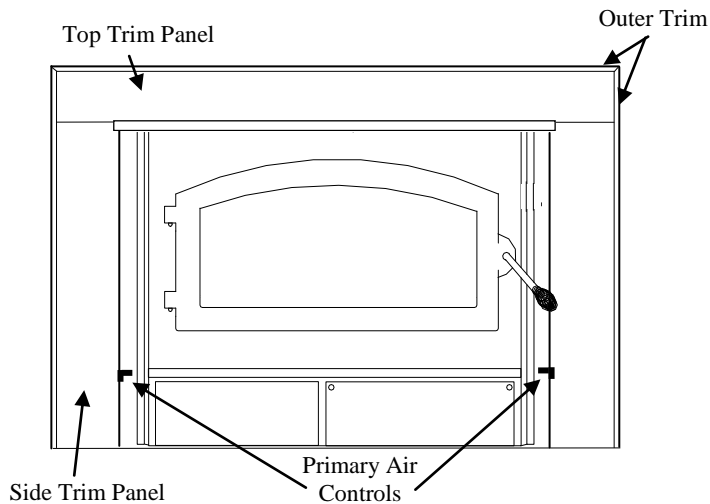

FIGURE 4
9. Obtain brass trim kit provided with insert kit and slip over top and sides of trim panels. Top ends of brass may need to be trimmed to fit (See Figure 4).
Primary Air Control: The primary air intake draft controls are located at right and left bottom side of hearth. It is operated by moving handle **in** to open (to allow air into firebox) or **out**, to control or close off air into firebox. (See Figure 4).